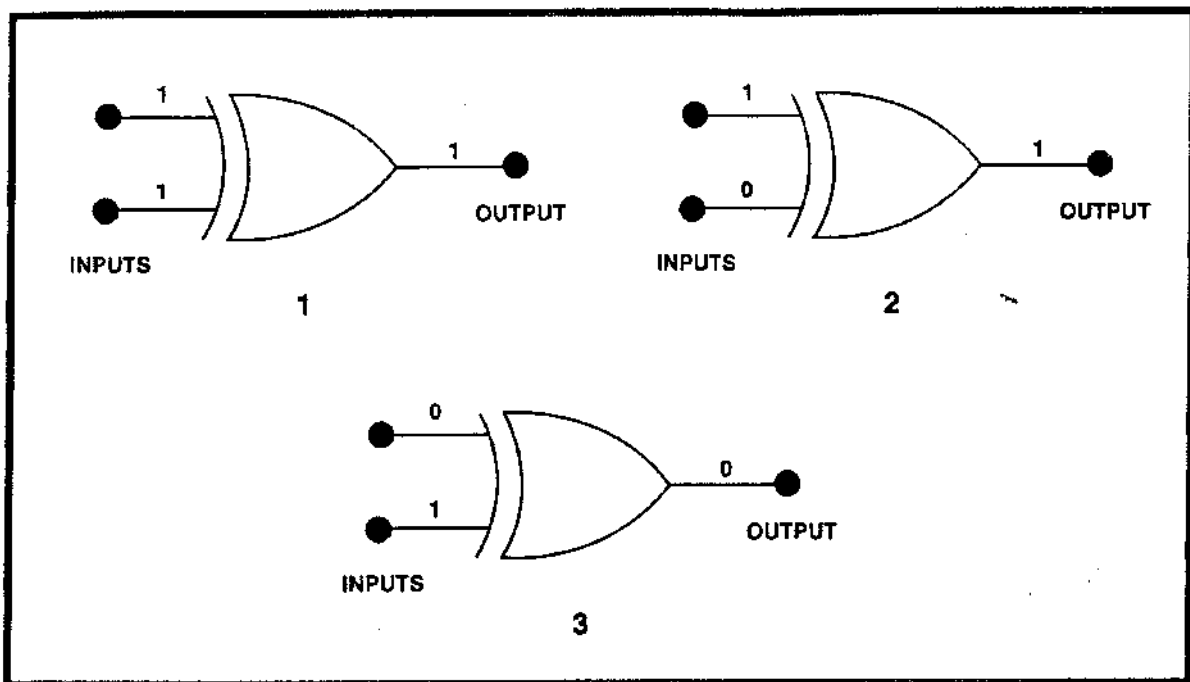

Fig. 9.17. Logic Gates.
89. (Refer to figure 9.17) Which of the logic gate output conditions is correct with respect to the given inputs ?